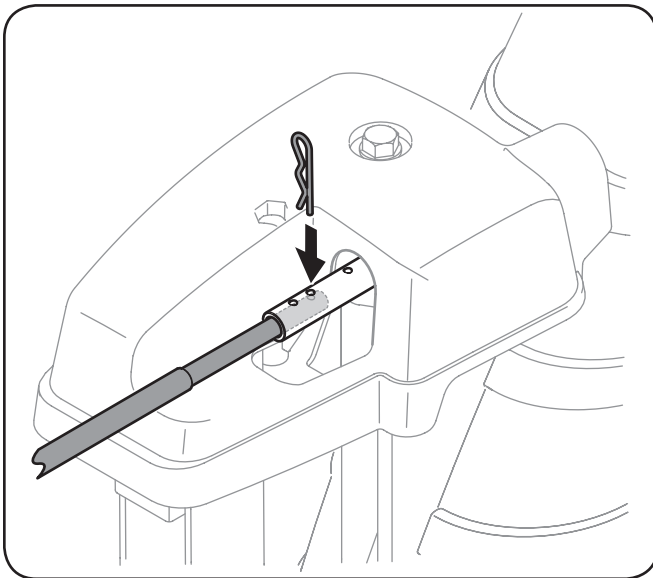

Figure 3-8
6. Push the chute control rod toward the control panel until the hole in the rod lines up with the middle hole in the chute control input and insert the cotter pin. See Figure 3-8.